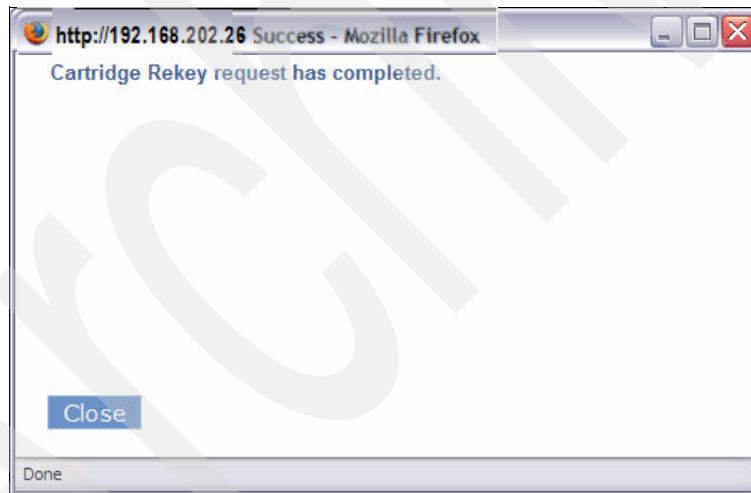

Figure 7-58 IBM UltraScalable Specialist - Rekey Encryption Success window
3. Successful completion of the 3592 cartridge re-keying request is indicated by the message, Cartridge Rekey request has completed, as shown in Figure 7-58.